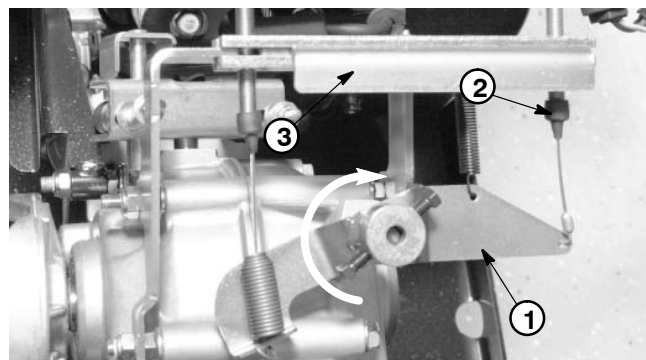

Figure 5
3. Rotate governor arm fully clockwise (Fig. 5).
- B. Adjust throttle cable at the cable bracket as necessary, so there is no compression of the throttle cable (Fig. 5). This will allow the throttle control lever to fully close when the accelerator pedal is released.